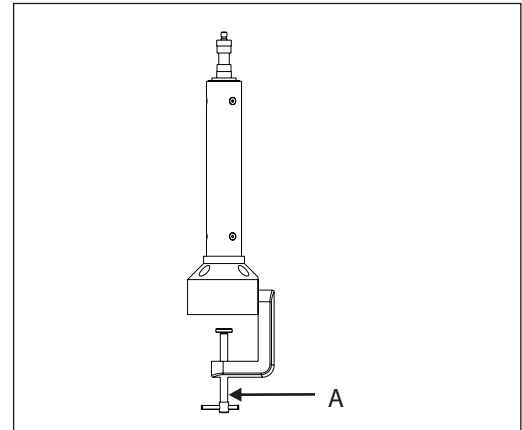

Fig. 2
8.1 Engage the column on the table top by tighten the clamping screw from the bottom as shown as (A) in Fig. 2.